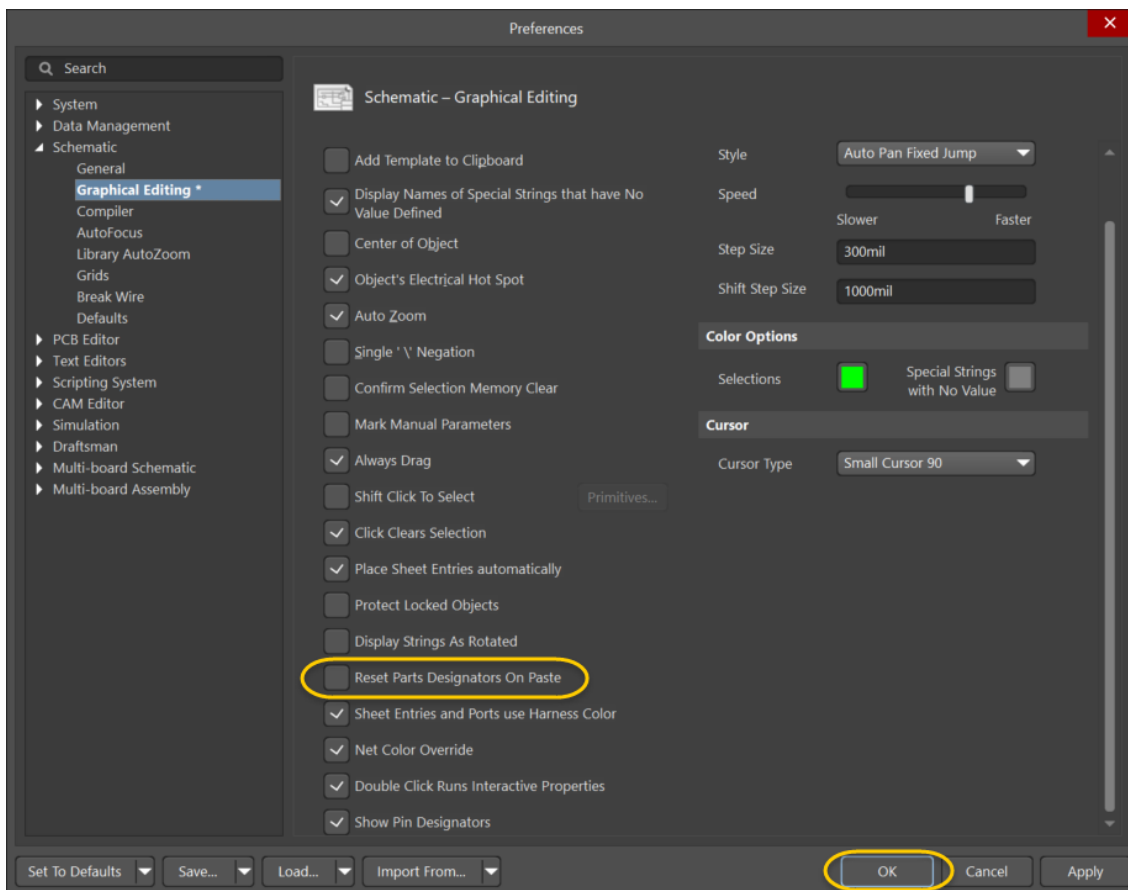

Figure 13. Reset Parts Designators preference
34. From the *Schematic* branch, in the *Graphical Editing* page, disable the option to **Reset Parts Designators On Paste** as shown in Figure 13. This will maintain the unique designators when we place the snippets into our designs.